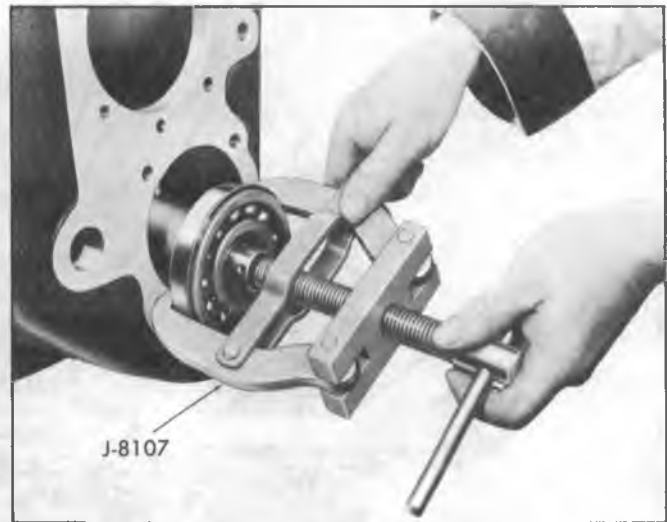

Fig. 4R--Removing Countershaft Rear Bearing
- b. Install adapter Tool J-4761 in end of idler gear shaft and using slide hammer as shown in Figure 4R, pull idler gear shaft. Lift idler gear from case and remove thrust washers.
- d. Slide countershaft assembly to rear to move rear bearing out of case. Then using Tool J-8107, pull bearing from shaft (fig. 4R). Lift countershaft assembly out top of case.